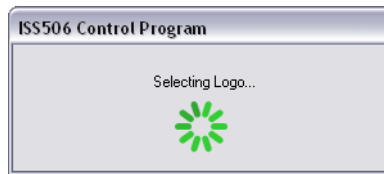

Figure 5-9 — Selecting Logo window
2. Click on the desired image's file name in the Select Logo field. Click the Select Logo button to load the image to the Logo button. The program displays a window that shows the progress of the selection (figure 5-9). Depending on the size of the logo, this can take a few minutes.